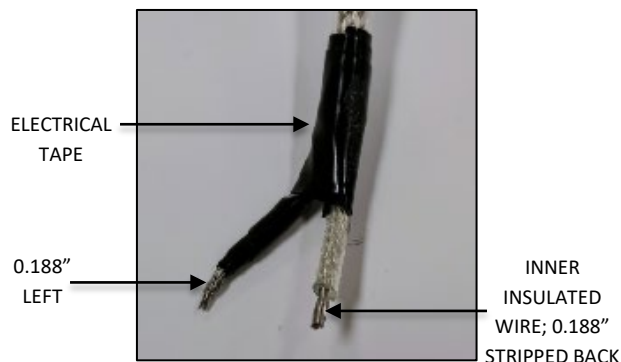
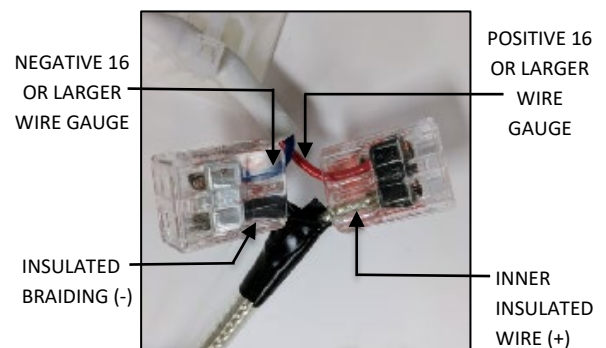

FIG. 38
FIG. 39
3. Using electrical tape, insulate the twisted strands leaving 0.188" exposed for connections. Strip off 0.188" of the inner insulation as you normally would for 18AWG stranded core wire as shown in FIG. 38 below. Connect the inner insulated wire (+) to the positive 16 gauge or larger wire ran in step 5 at the hanging bracket and Connect the outer braiding (-) to the negative 16 gauge or larger wire ran in step 5 at the hanging bracket FIG. 39 below.